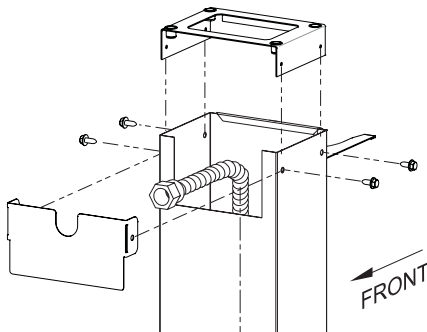

Figure 5
5. For R3 Series Grill Heads: Slide the Post Cover Plate onto the front of the post. Slide the Upper Bracket onto the post. Secure the Post Cover Plate and Upper Bracket to the top of the square post using four #10 - 1/2 Hex Head screws. See Figure 5.
**For Grill Heads other than R3 Series:** Slide the Upper Bracket into the post. Secure the Upper bracket to the top of the square post using four #10 - 1/2 screws. See Figure 5.